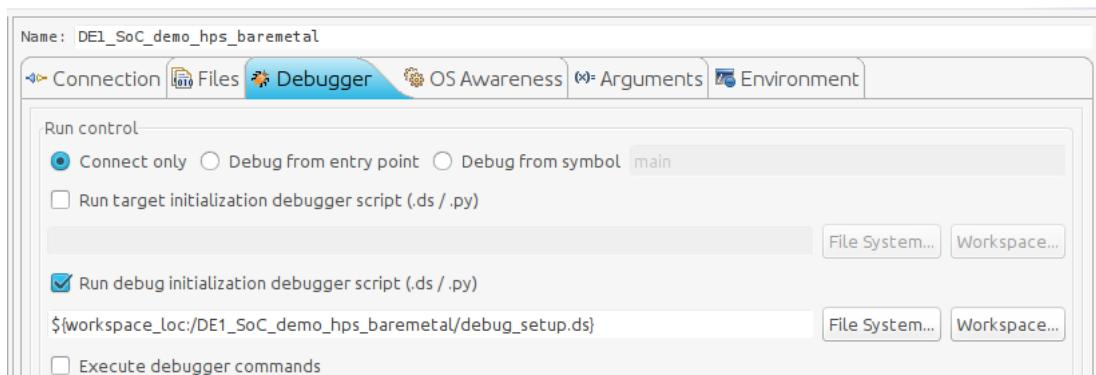

Figure 12-7. Debug Configuration "Debugger" Tab
- Enable the "Run **DEBUG** initialization debugger script (.ds / .py)" checkbox. Set the debug script to the one we defined for the project in 12.2.2. You should have something similar to Figure 12-7.